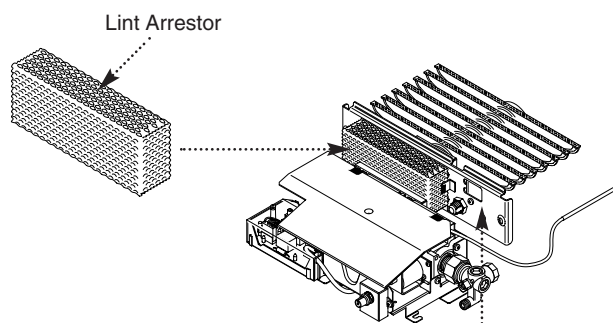

Fig. 61
1. Remove the lint arrestor by pulling forward (Fig. 61).